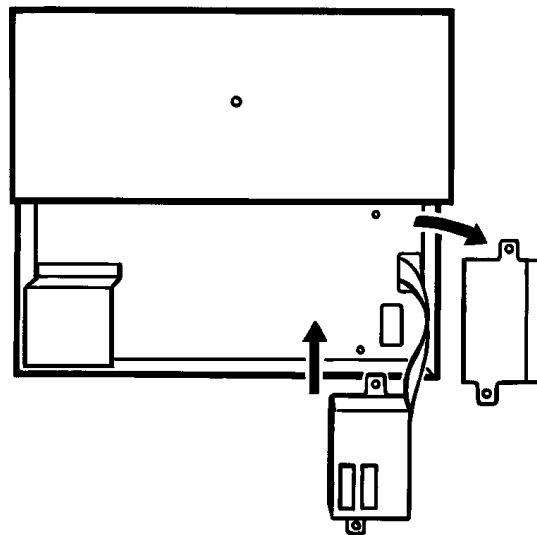

Figure 4.8.2f Fitting communications module
6. Feed the communications module ribbon cable across the inside back of the recorder, secure it with the clip, then fold the cable back on itself and make a right angle turn upwards (figure 4.8.2f).